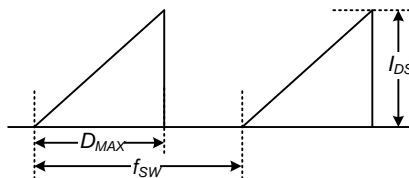

Figure 4. Repetitive Peak Switching Current
6. Repetitive peak switching current when the inductive load is assumed: Limited by maximum duty ( $D_{MAX}=0.75$ ) and junction temperature (see Figure 4).